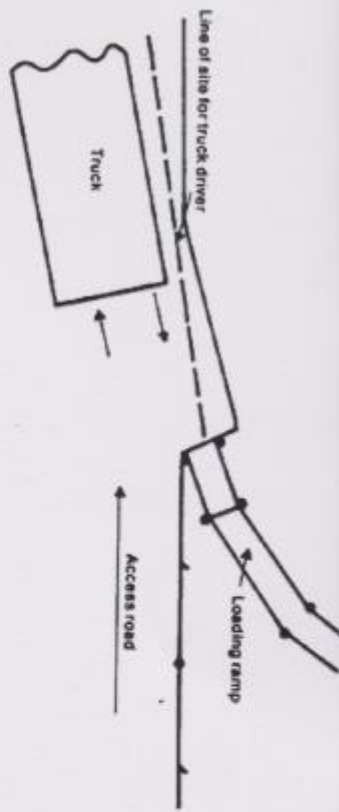

Figure 3. Situation of ramp to give truck driver a good view
- The ramp should be situated so that the truck driver may back in with a good view from the driver's side (figure 3). It is almost impossible for a semi-trailer to be backed accurately to a ramp on left-hand lock.